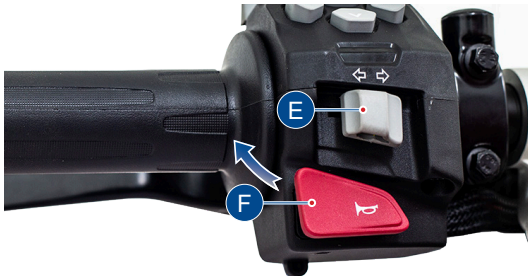

Fig. 14
E) Switch turn signal (ref. Fig. 14)
F) Switch horn (ref. Fig. 14)